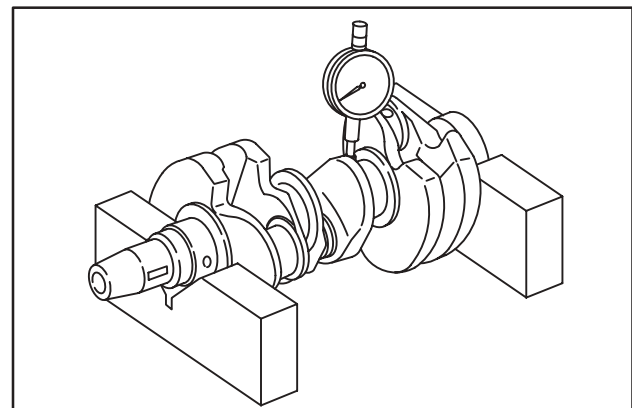

Fig. 2 – Checking Run-out
2. Check the crankshaft for run-out at #3 main bearing journal, Fig. 2.